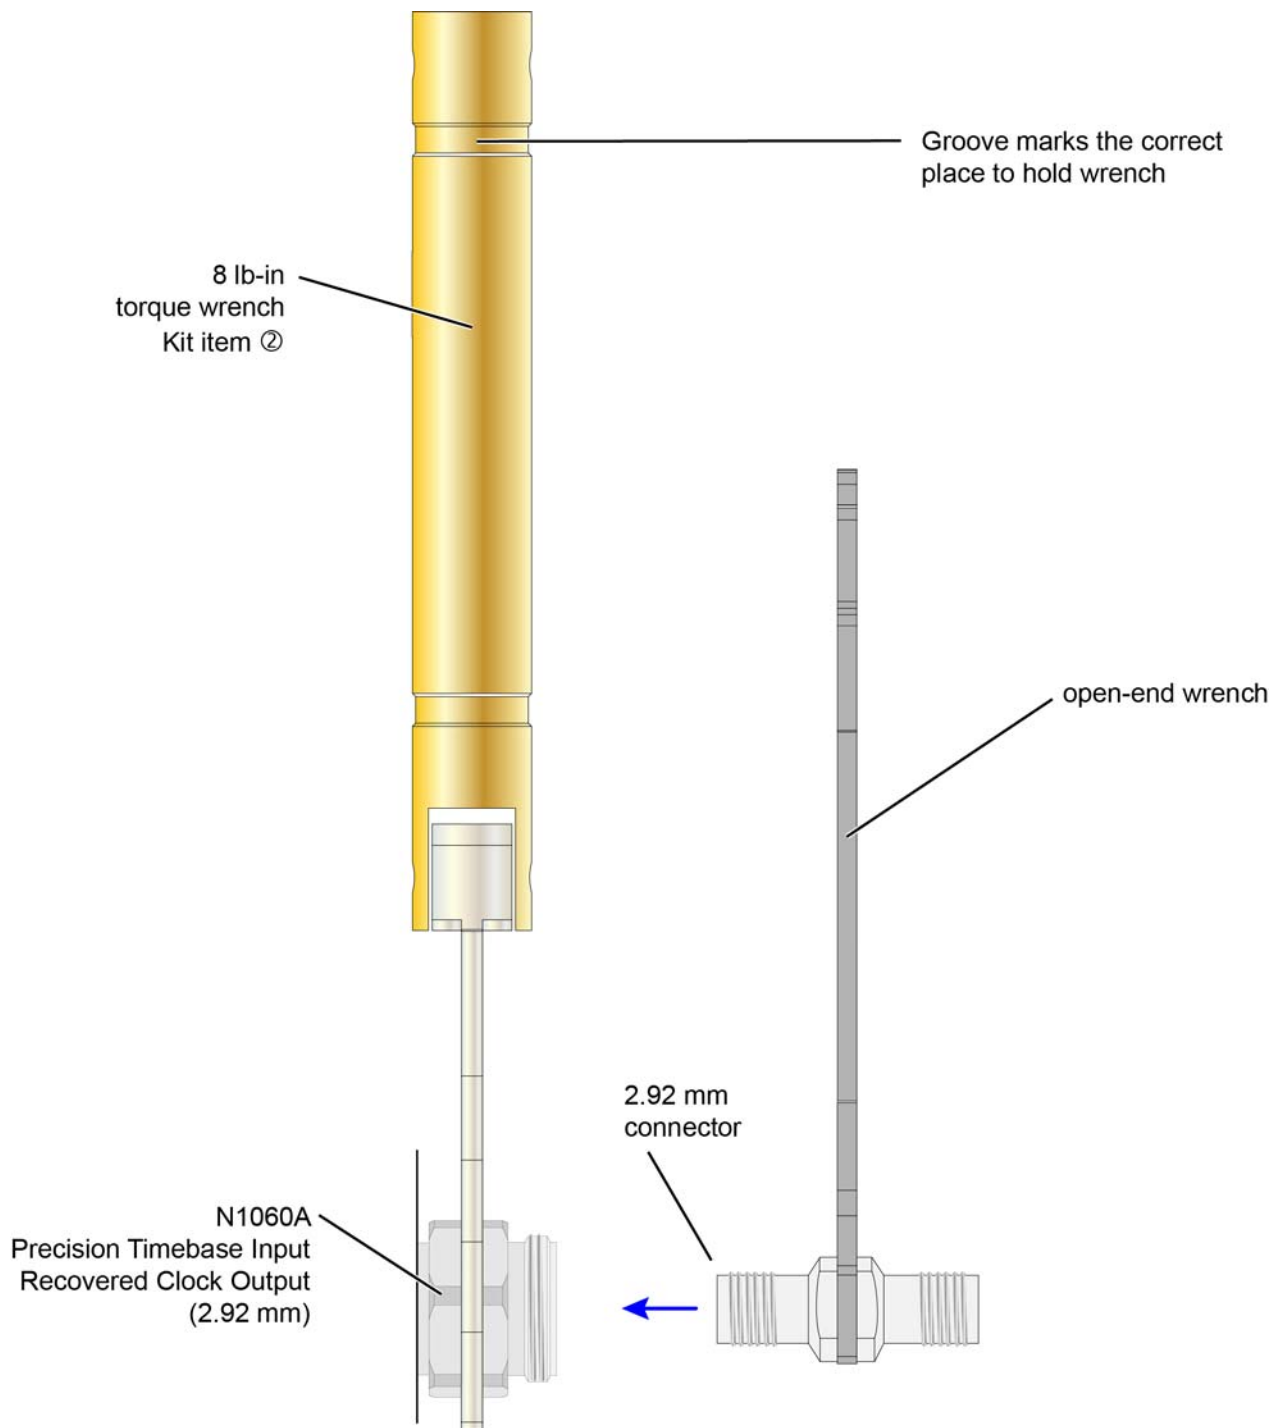

Figure 9 Wrenches Positioned on Correct Flats
- See Figure 9 for Recovered Clock output and Precision Timebase input connectors